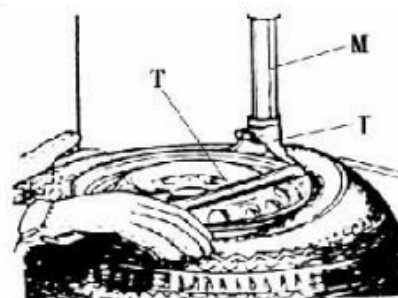

Fig 6
Lower the Vertical Arm (M) until the Mounting/demounting head (I) rests next to the edge of the rim, flip the Locking Handle to lock the Vertical Arm and Swing Arm in position, and also adjust the Rocker Arm make Mounting/demounting head can raise 2mm-3mm automatically from the edge of the wheel rim. Insert the Lifting Lever (T) between the tyre bead and the front section of the mounting/demounting head (I), and move the tyre above the mounting/demounting head as shown as **Fig 6**.